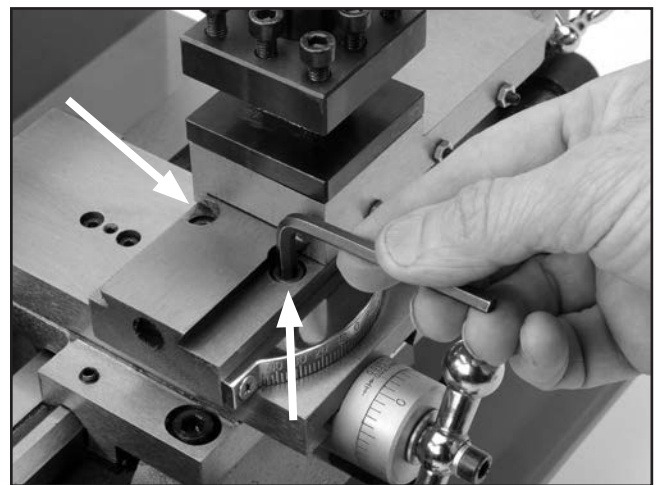

Figure 23. Compound slide bolts.
1. Loosen the compound slide bolts shown in **Figure 23** to allow it to be rotated.